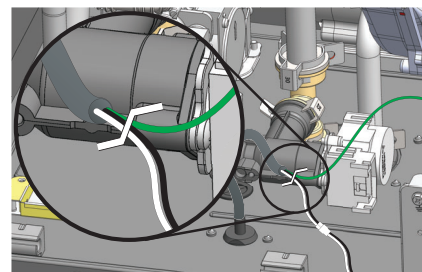

Figure 37 - System power cord cut location.
- 4 Locate the system power cord using Figure 37. Cut the wires at the location shown in Figure 37.